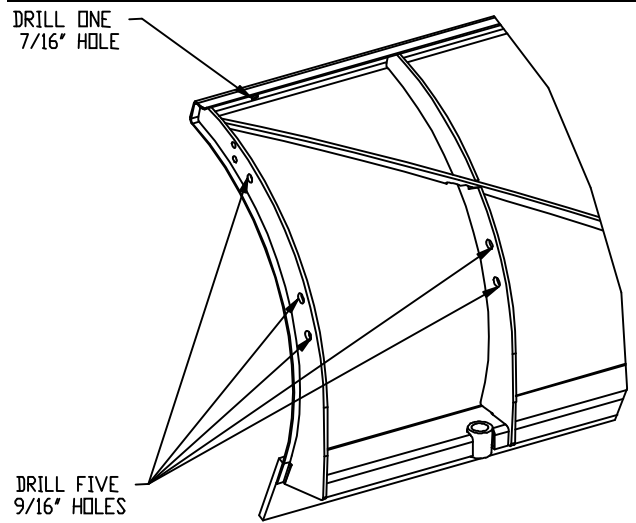

Figure 2. Drilled Hole Locations (8'0" Straight Blade) **G10354**
- 3) Use provided template (see inserts) to mark three 9/16" diameter holes on Outside Plow Rib. Drill top 9/16" hole only. See Figure 2.